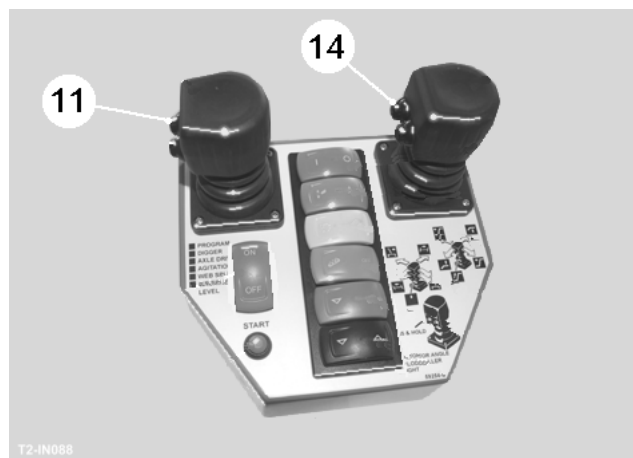

Fig 37
LH joystick secondary functions are 1st separator clod roller height and 1st separator angle. To activate the secondary functions, press and hold the button (item 11, fig 37). Re-centre the joystick before releasing the button.
Note: If the LH joystick fails to operate, centre the joystick and press the secondary function button (item 11, fig 37) once to reactivate it.
RH joystick secondary functions are 2nd separator clod roller height and 2nd separator angle. To activate the secondary functions, press and hold the button (item 14, fig 37). Re-centre the joystick before releasing the button.
Note: If the RH joystick fails to operate, centre the joystick and press the secondary function button (item 14, fig 37) once to reactivate it.